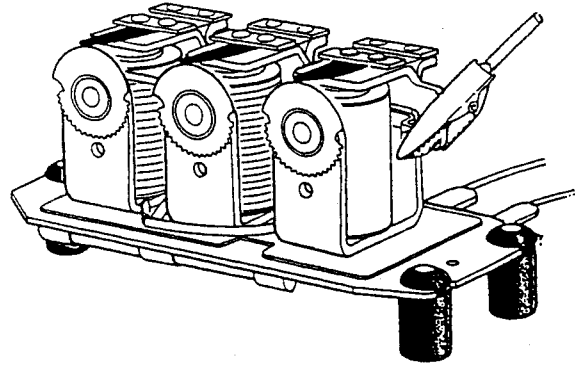

Fig. 66 Checking the current regulator setting
**TEST 3. Current Regulator Setting (Fig. 66)**